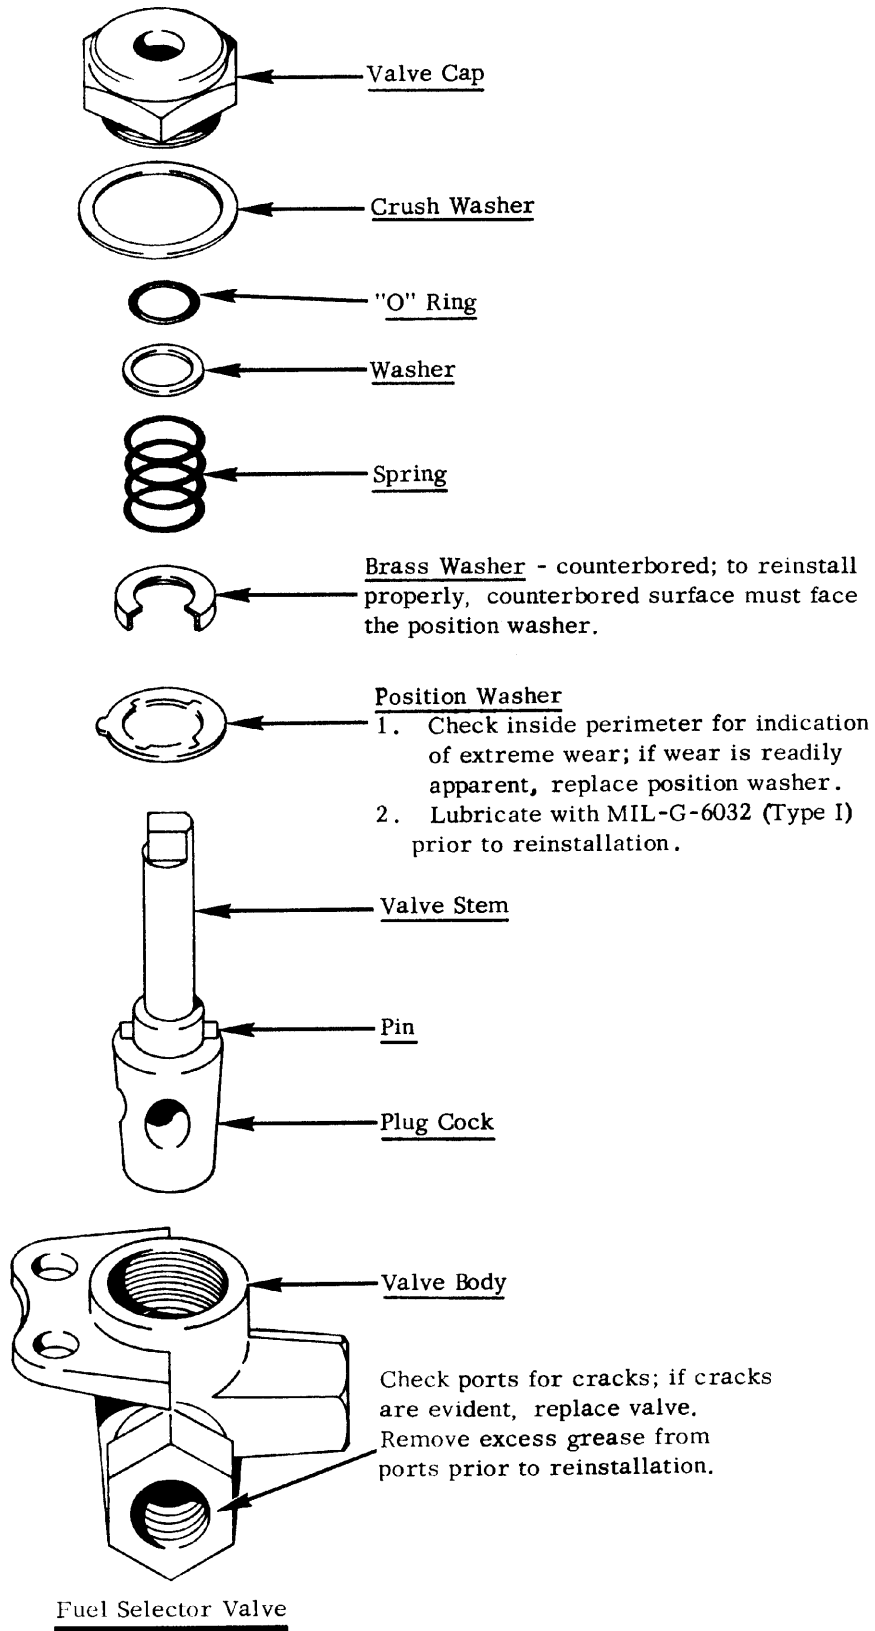

Figure 3-5. Fuel Selector Valve Inspection
**NOTE:** The tapered plug cock is subject to binding or "freezing" unless properly lubricated. Binding is typically caused by (1) fuel coming in contact with the plug cock and gradually dissolving the film of lubricant, (2) presence of foreign material, and (3) hardened or congealed lubricants (usually, wrong type).
- (a) With the valve removed from the aircraft, remove the valve cap and interior parts (see Figure 3-5).